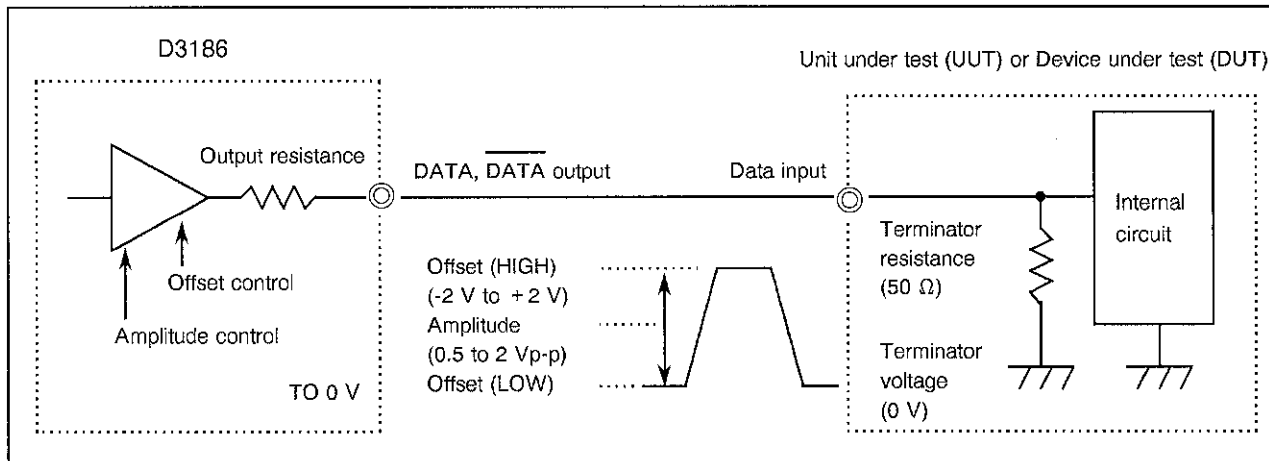

Figure 4-1 DATA and  $\overline{\text{DATA}}$  Output, DC Connection, and 0 V Termination
- (1) When the UUT/DUT data input connection is DC and the terminator voltage is 0 V (see Figure 4-1.):